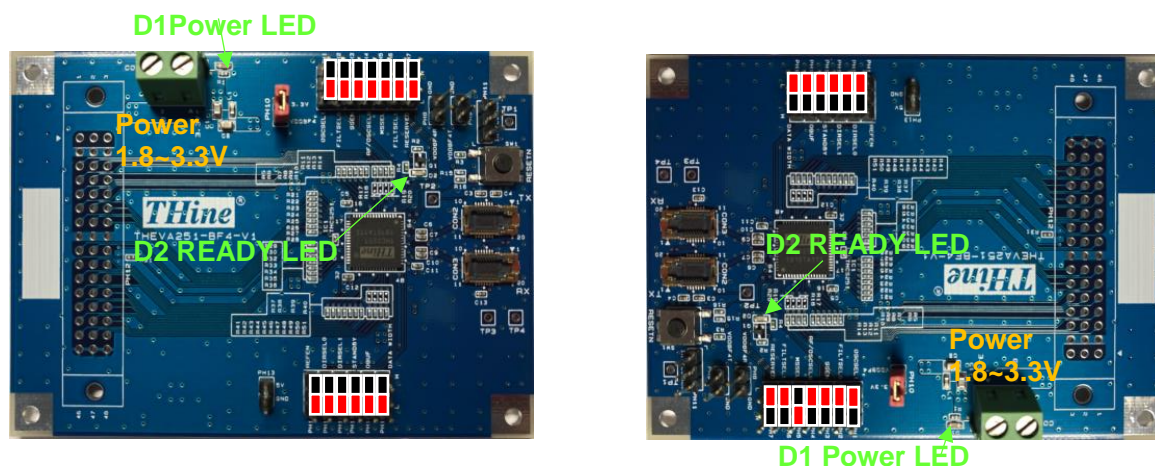

Figure 3 THEVA251-BF4-V1 Quick start pin setting
1.3.1 Set the jumper pins as shown in Figure 3 for the master board and slave board. The board connects with a BF4MC-6GTXRX series plug harness.